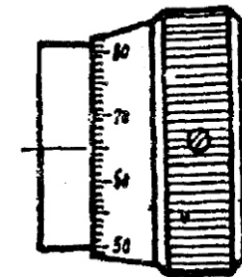

Fig.4 Graduation thimble
- 2) The centigrade taken from the graduation thimble is 65 (see Fig.4) since one grade equals to 0.01mm, therefore, 65 equals to 0.65mm, i.e.  $0.01 \times 65 = 0.65(\text{mm})$ .